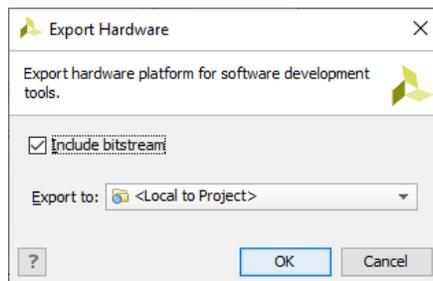

Figure 14: Export hardware for SDK.
23. The *Export Hardware* dialog window will open. Ensure that the option to Include Bitstream is selected, as in Figure 14, then click OK.